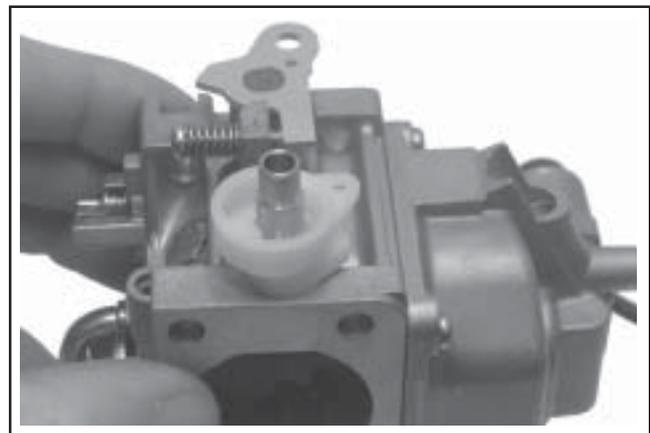

Figure 5-35. Installing Bushing.
8. Turn the old bushing upside down and use it as a driver to carefully press or tap the new bushing into the carburetor body until it bottoms. Check that the choke lever pivots freely without restriction or binding. See Figure 5-35.